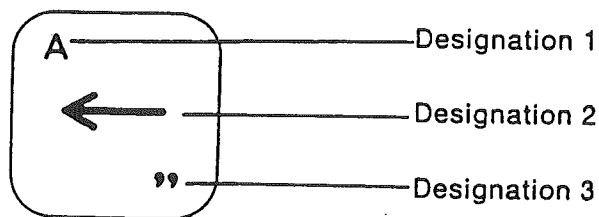

FIG. 4-2 Designations
- a. One of the keys has three (3) designations. See Figure 4-2.